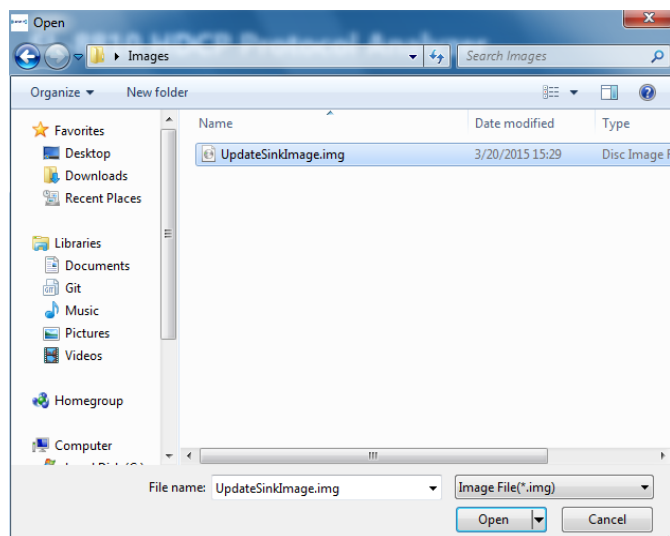

Figure 1.14. Update HDCP Firmware
3. The Open dialog pops up. Select updated image file to update firmware. See Figure 1.14.